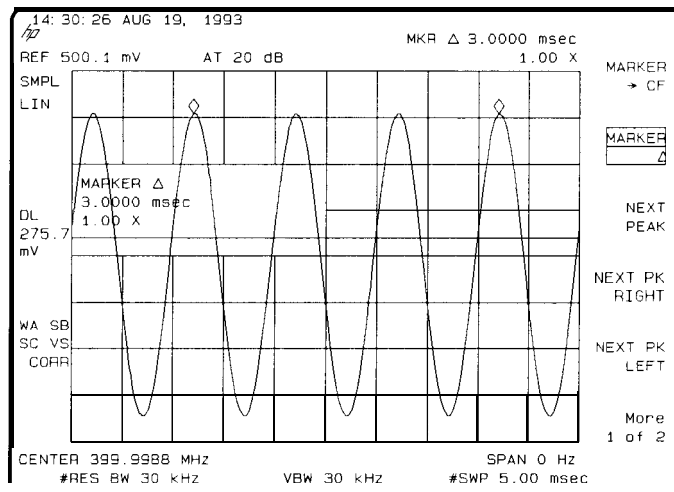

Figure 4-26. Measuring Modulation In Zero Span
5. To select zero span, either press (SPAN), 0 (Hz) or press ZERO SPAN See Figure 4-26. If the modulation is a steady tone (for example, from a signal generator), use video trigger to trigger on the waveform and stabilize the display. Adjust the sweep time to change the horizontal scale.